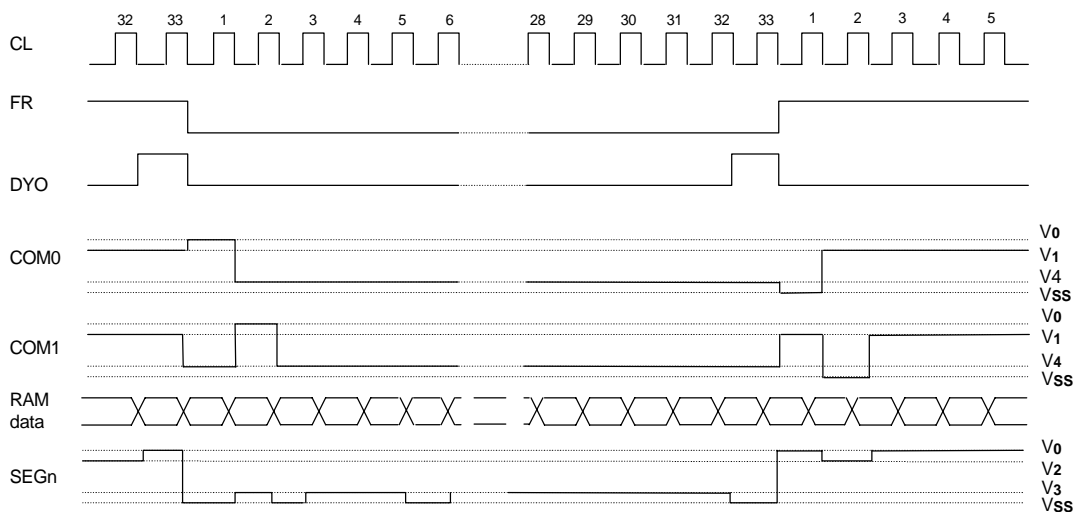

Figure 5
The display clock generates an internal common timing signal and a start signal (DYO) to the common driver. A display clock resulting from frequency division of an oscillation clock is output from the CL pad. When an AC signal (FR) is switched, a high pulse is output as a DYO output at the turning edge of the previous display clock. Refer to Figure 5. The DYO output is output only in master mode. When the NT7501 is used for multi-chip, the slave requires to receive the FR, CL, \overline{DOF} signals from the master. Table 4 shows the FR, CL, DYO and \overline{DOF} status.
This is a multiplexer circuit consisting of 100 segment outputs to generate four-level LCD panel drive signals. The LCD panel drive voltage is generated by a specific combination of display data, COM scan signal, and FR signal. Figure 5 gives an example of SEG and COM output waveform.